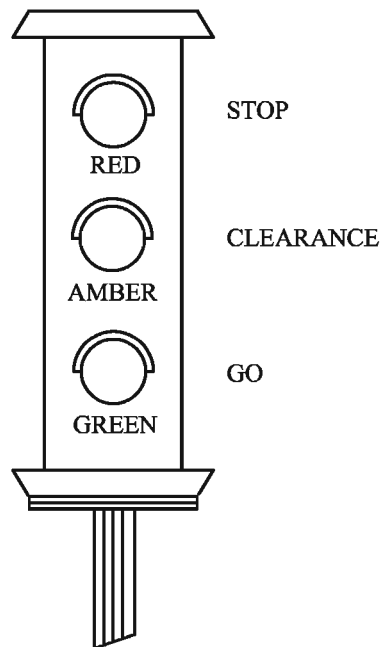

Fig. 8.17 FIXED TIME SIGNALS
- i) Fixed time signals (Fig 8.17)